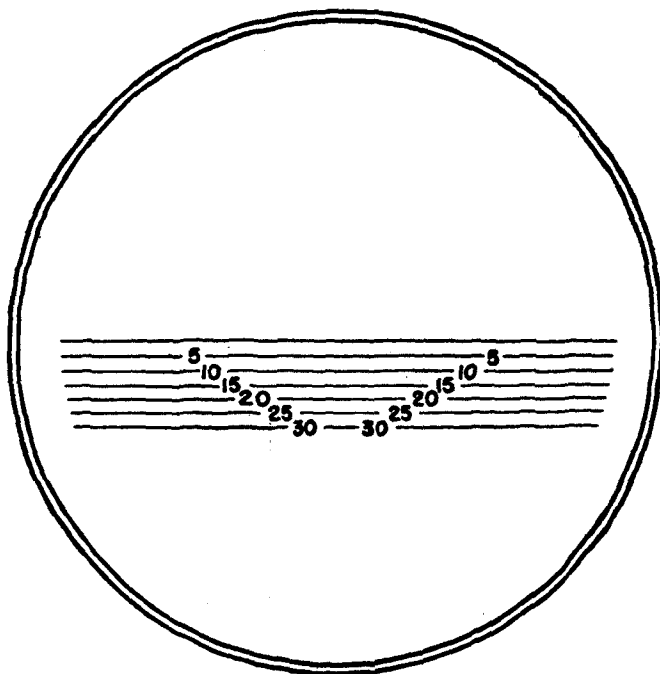

FIGURE 33.—Range reticle, elbow telescope M26.
d. Range reticle.—Across the bottom half of the range telescope's reticle are seven horizontal range lines for aiming at the following ranges: point blank, 500 yards, 1,000 yards, 1,500 yards, 2,000 yards, 2,500 yards, and 3,000 yards (see fig. 33).